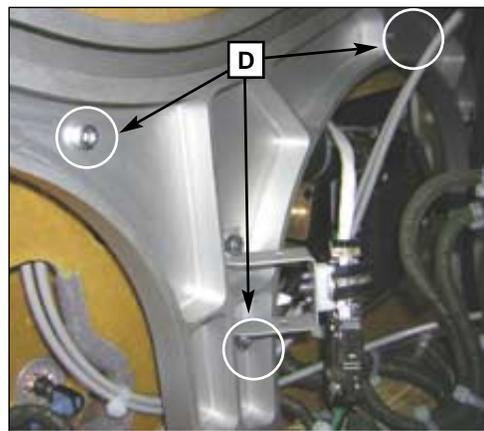

FIG. 306A: AISLE ENDBAY, INNER VIEW
- (4) Remove five bolts (D) to free endbay assy from the seat structure (see fig. 306A, 306B, 306C).